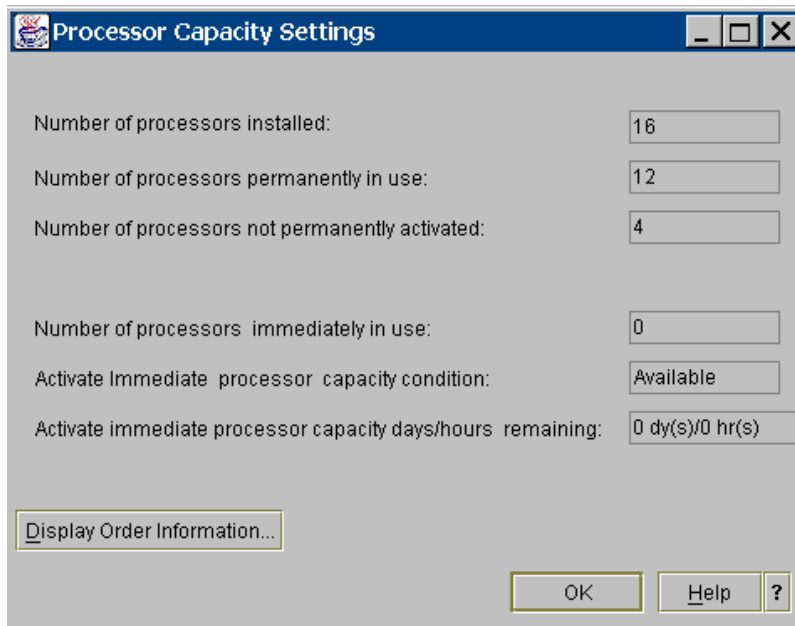

Figure 4-4 Processor Capacity Settings
- b. On the managed system, select Capacity Upgrade on Demand -> **Processor** or **Memory** -> **Processor Capacity Settings** or **Memory Capacity Settings** and a menu displaying the resources on the system will appear (see Figure 4-4).